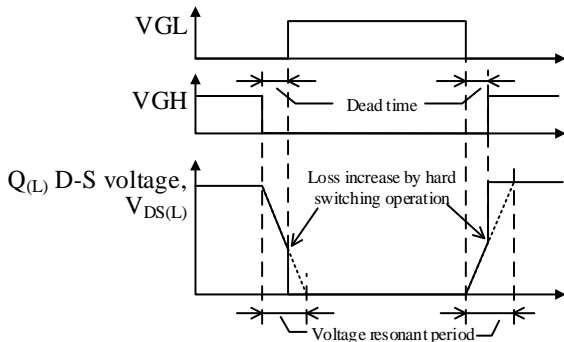

Figure 8-22. ZVS failure operation waveform
As shown in Figure 8-22, if the dead time is shorter than the voltage resonant period, the power MOSFET is turned on and off during the voltage resonant operation. In this case, the power MOSFET turned on and off in hard switching operation, and the switching loss increases. The Automatic Dead Time Adjustment Function is the function that the ZVS (Zero Voltage Switching) operation of Q(H) and Q(L) is controlled automatically by the voltage resonant period detection of IC. The voltage resonant period is varied by the power supply specifications (input voltage and output power, etc.). However, the power supply with this function is unnecessary to adjust the dead time for each power supply specification.